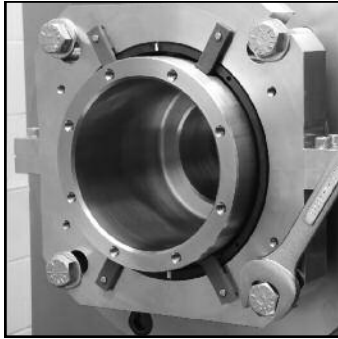

Figure 22
11. Install the seal mounting bolts (typically not supplied). Evenly tighten the bolts but do not fully tighten at this time. Tighten the bolts until the gland plate assembly begins to contact the seal chamber and then back off bolts one-quarter turn. Figure 22.